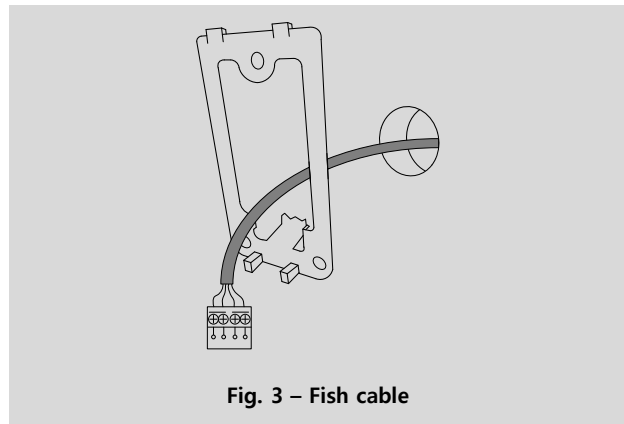

Fig. 3 – Fish cable
2. Pull the cable from the Master diffuser through the hole and through the Wall Plate (Fig. 3).